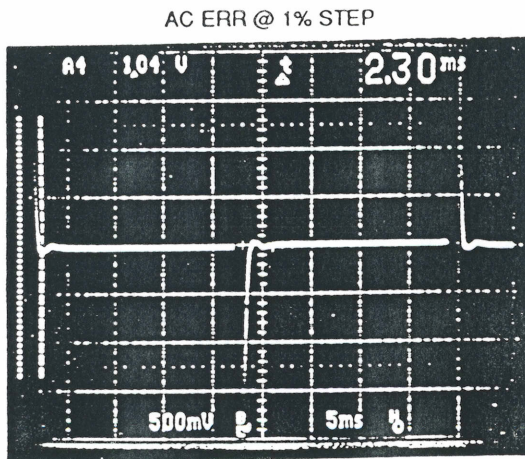

Figure 6
9. Change the scope to the 500 mvolts/div setting and readjust VR1, VR3 and VR6 until the "time to settle" and ± 100 mv "window" have been achieved, as shown in Figures 6 and 7.